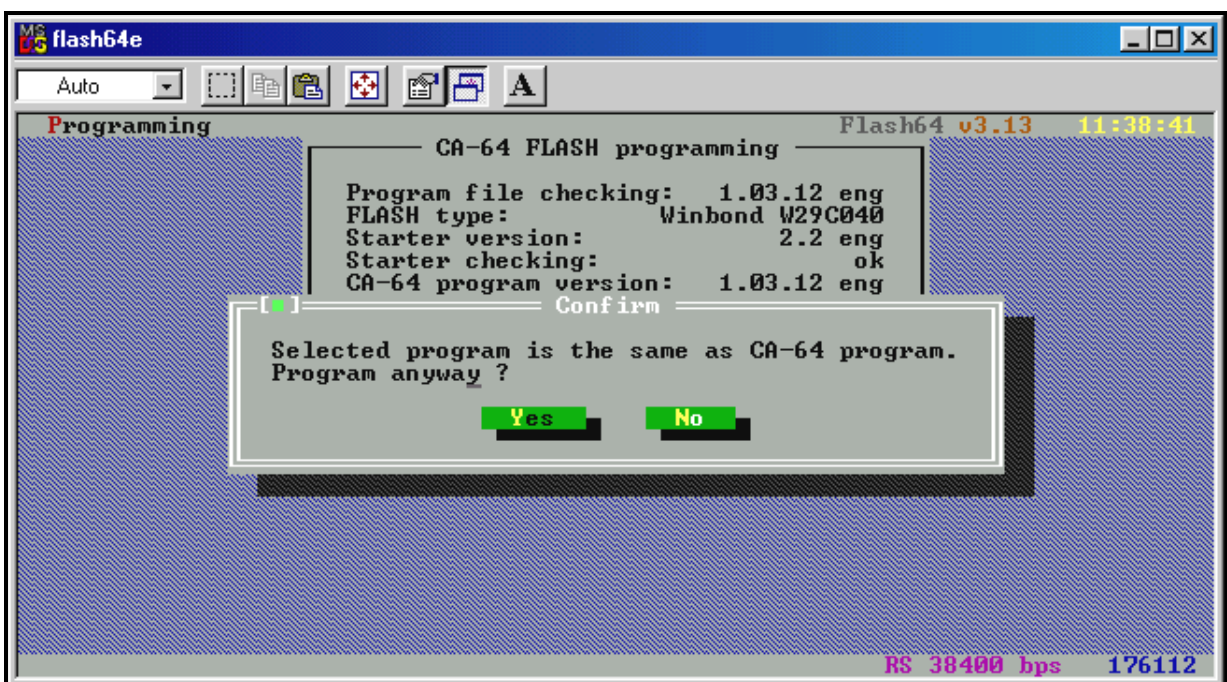

Fig. 9
- Version of the control panel program is the same as the file contents – see Fig. 9.